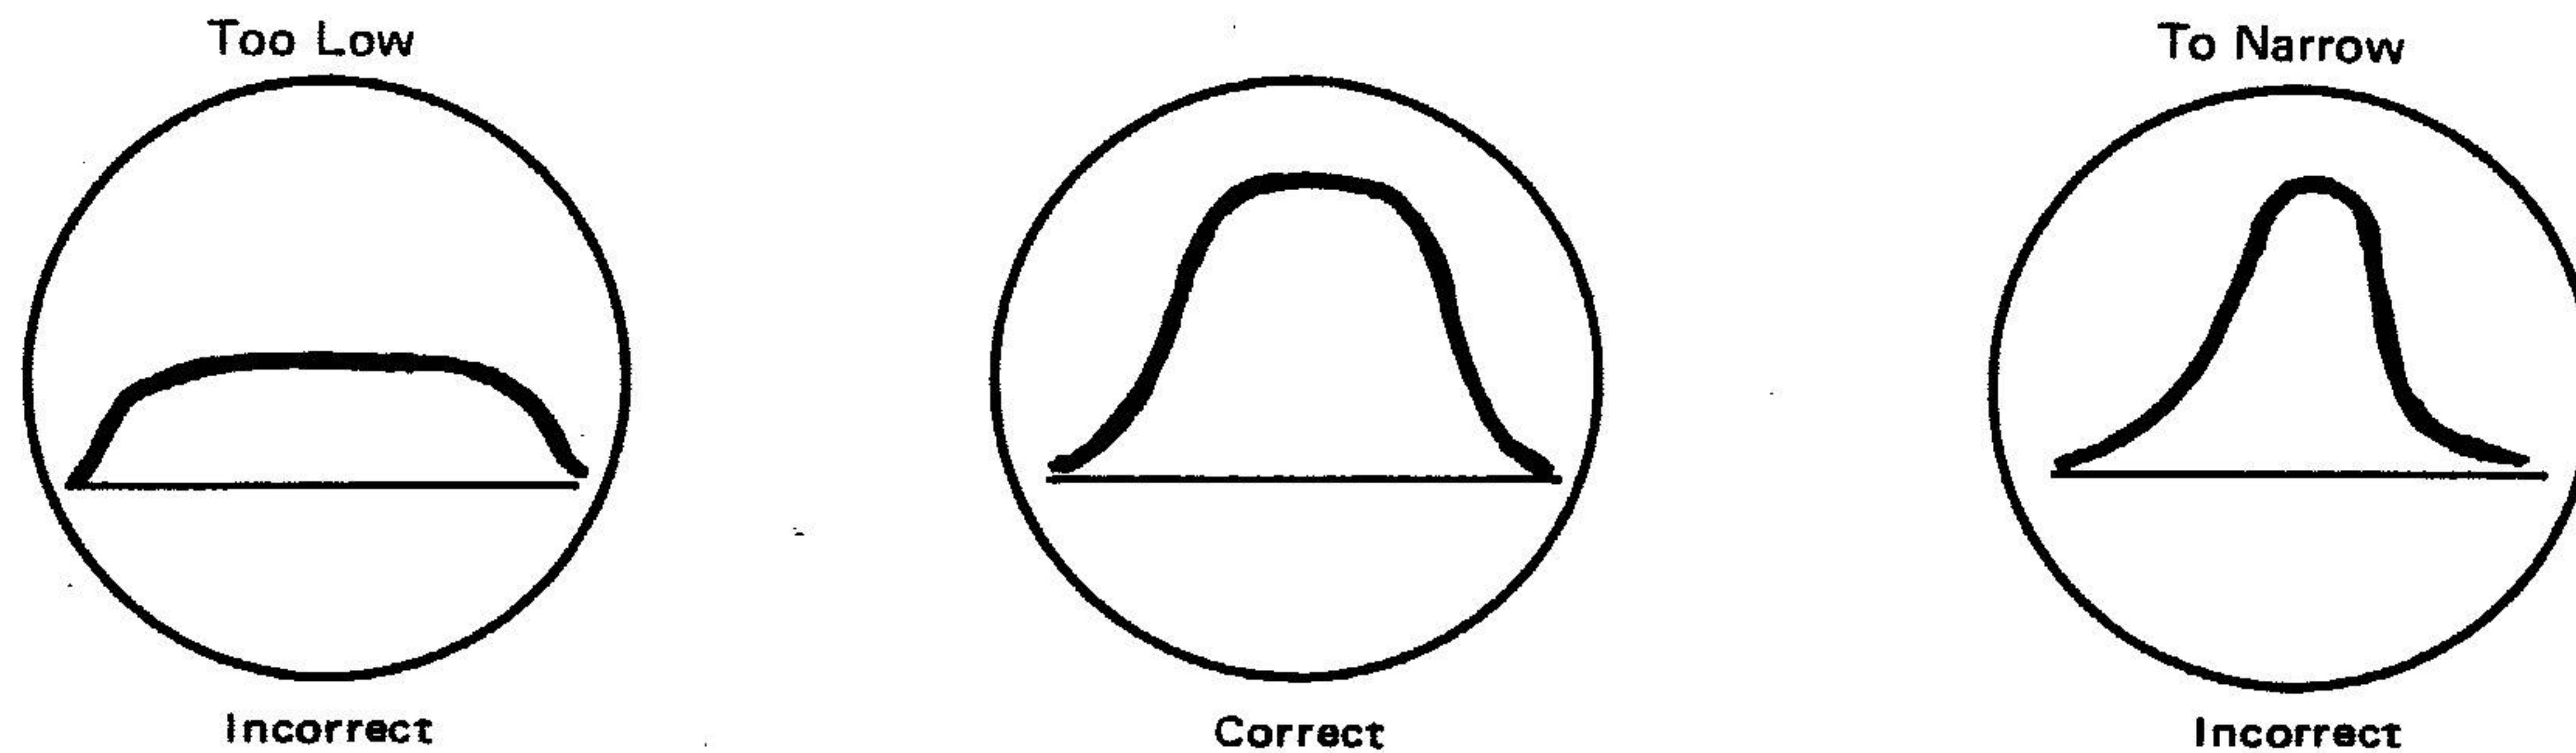

Figure 4.
6. Adjust each upper and bottom core of T201 and CF101 for highest, widest and round top response as shown in Figure 4. [Since ceramic filters are used in the IF circuits, ignore 10.7 MHz center marker in the above alignment].